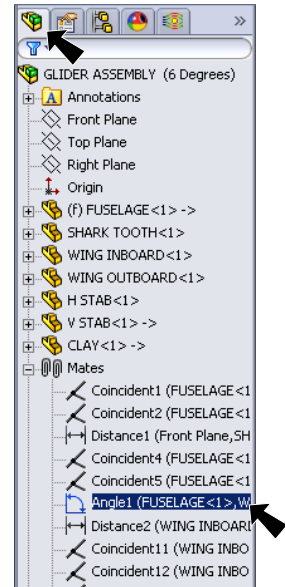

Fig. 47
Step 3. Expand **Mates** in the Feature Manager and click **Angle1**, **Fig. 47**.